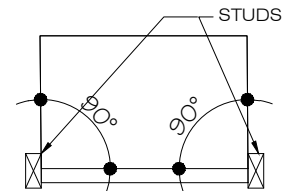

FIG.1
- Ensure that there is sufficient structural support behind the shower wall to hold the weight of the shower door. If there is insufficient enough support, then reinforce the shower walls with wooden studs prior to shower door installation. [SEE FIG. 1]